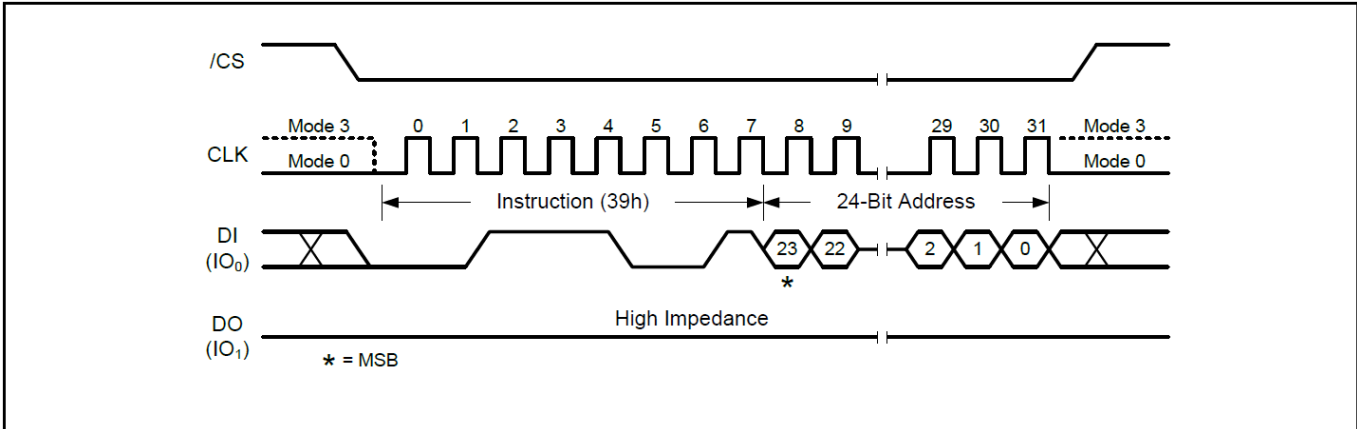

Figure 37. Individual Block/Sector Unlock Instruction for SPI Mode
To unlock a specific block or sector as illustrated in Figure 37, an Individual Block/Sector Unlock command must be issued by driving /CS low, shifting the instruction code “39h” into the Data Input (DI) pin on the rising edge of CLK, followed by a 24-bit address and then driving /CS high. A Write Enable instruction must be executed before the device will accept the Individual Block/Sector Unlock Instruction (Status Register bit WEL= 1).